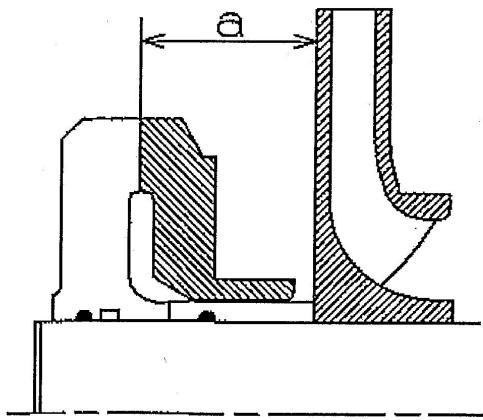

Fig.12 Adjusting Distance "a" in Rotor
- (1) Measuring the distance "a" between the contact surface of balancing disc seat (6020) and the hub face of last stage impeller. (see Fig.12)